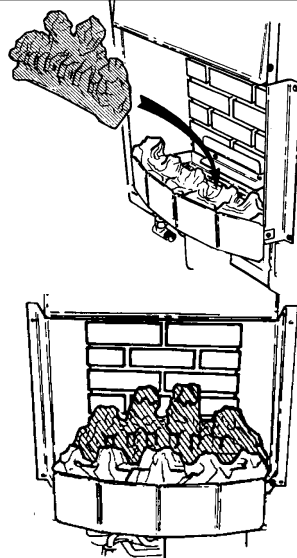

Fig. 35 Rear base coal installation
**3** Place the rear base coal in the burner compartment behind the front coal. It should rest on the ledge at the back of the burner compartment and its rear face should touch the rear ceramic wall (See figure 35)